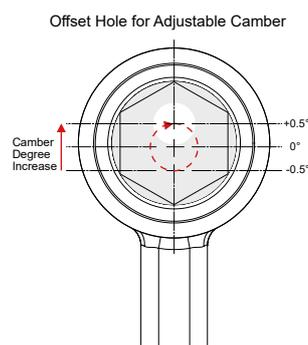

Figure 2
7. For maximum camber the hex spanner to rotate the sleeve so that the bore is positioned as shown in figure 2.